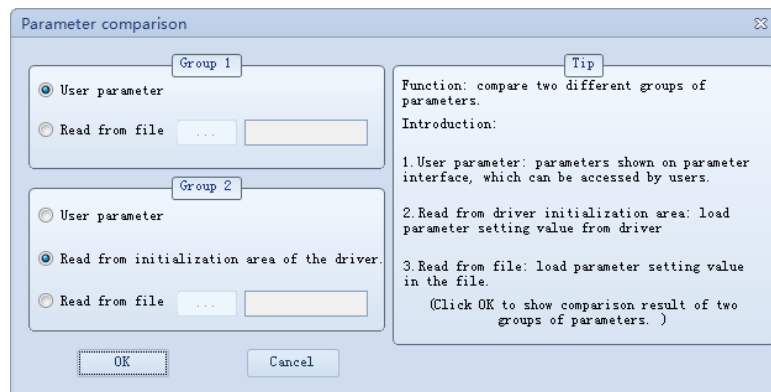

Fig. 3-3 Parameter comparison dialog box
1. Click  on the toolbar to open parameter comparison dialog box (see Fig. 3-3).
UI Operation: in this area, click “OK” to exit the window; click “Back” to return to previous window as shown in Fig. 3-3.